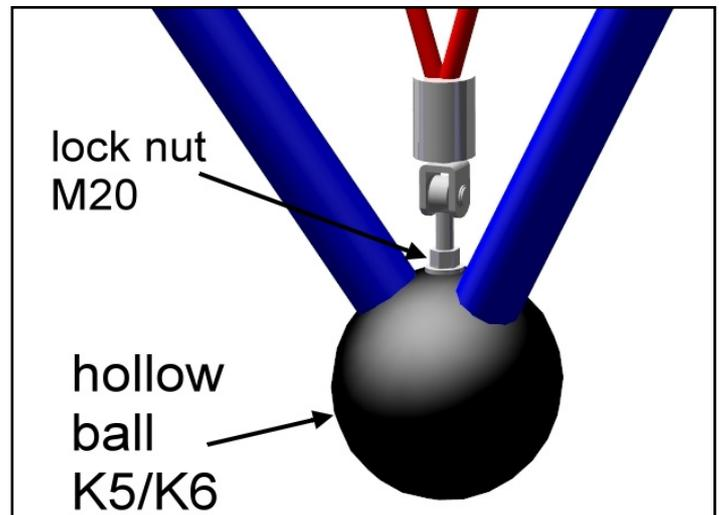
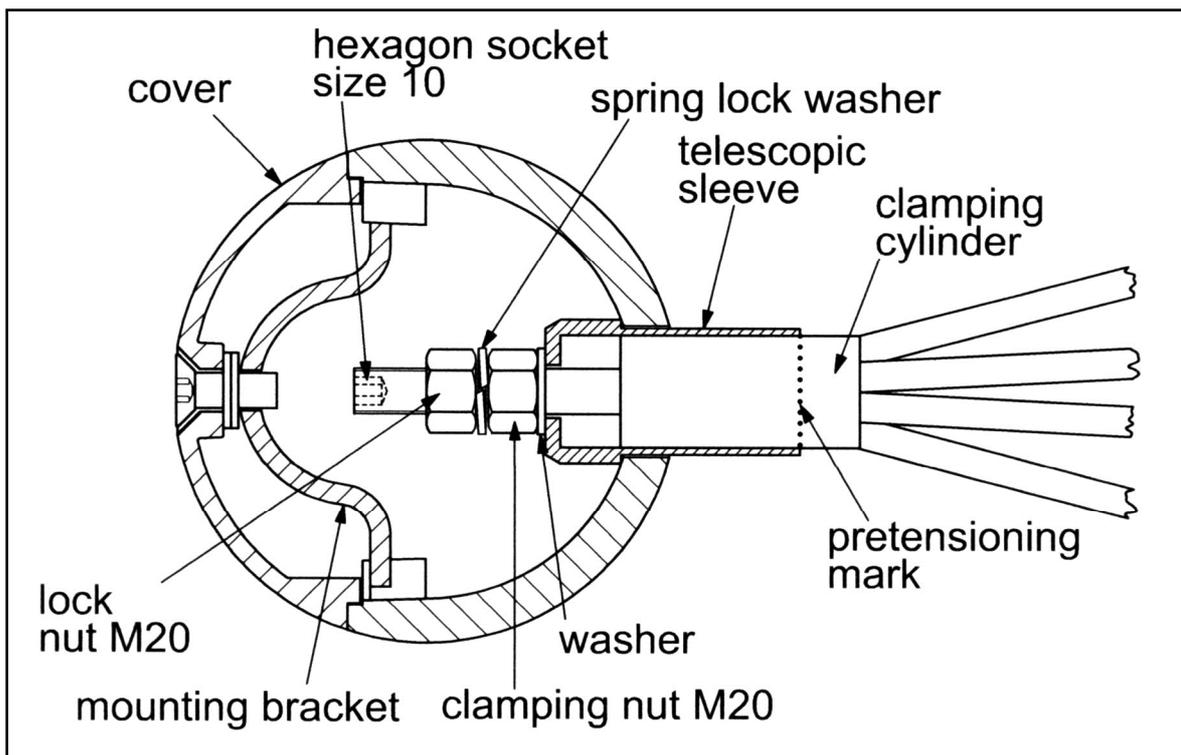

Figure 7
Figure 8
The four **corner points K2**, marked at the space net, should now be raised to the **hollow balls K2** using the attached assembly rope and fitted to the tensioning nut. Push the clamping cylinder with the bolt M20 into the telescopic sleeve (**figure 8**) and first of all, tighten it with the clamping nut N20 size 32 by only five turns to make for easier insertion into the spheres. The space netting should now be completely removed from the crate.
Preassembly of the space netting is continued on **joints K5** and **K6** (**figure 7**), then on **joint K3** and finally on **joints K4** (**K3** and **K4** are mounted like **K2**, **figure 8**). The straining screws should initially only be tightened about 5 threads by the tensioning nuts.
Tightening begins at **joints K5** and **K6** and is carried out with the tensioning nuts M20 size 30. At this point the straining screws should be tightened as far as possible, so that the lock nuts previously set in the works (**figure 7**) come into firm contact with the joints. Further tightening is carried out on **joints K2**, **K3** and **K4**. At this points tightening must be carried out with the special socket spanner size 32 which is supplied. It must be **tensioned up to the pretensioning mark**. The net finally has a good **uniform strong** tension.
Please note, that at all clamping points **the ropes are not distorted** when you tensioning the net. If necessary hold it firm with a practical tool. (**figure 8**).
After the tensioning the clamping nuts at all joints **K2**, **K3** and **K4** are to lock with the supplied locking nut M20 size 32 including the spring lock washer. **When you tightened the lock nut, you can hold up the M20 bolt with an Allen key size 10** (**figure 8**).
Now the lock nuts should be checked at the joint points **K5** and **K6** are firmly anchored (**figure 7**). After that, all joints **K1**, **K2**, **K3**, **K4**, **K5** and **K6** can be locked with the prepared ball covers via the retaining bracket in the cover (**figure 8**). Please fix all the covers that our logo is on the top. Thank you.
- The first re-tensioning of the equipment must be carried out after it has been used for between 1 and 2 weeks. Re-tensioning is done using the clamping nuts M20 which are situated in the hollow spheres (**K5** and **K6**). After removing the cover, using a size 10 Allen key, a socket spanner is used to increase the tension on the tensioning nut size 30. The lock nut size 30, which is on the outside of the hollow ball (**figure 7**), should first be loosened. After the re-tensioning the lock nuts are to be tightened. The further re-tensioning is carried out on the hollow spheres **K2**, **K3** and **K4**. At this points re-tensioning must be carried out with the special socket spanner size 32 which is supplied. The lock nut size 32 (**figure 8**) should first be loosened. It must be **tensioned beyond the pretensioning mark**. After the re-tensioning the clamping nuts at all joints **K2**, **K3** and **K4** are to lock with the supplied locking nut M20 size 32. **Please note the right position of the spring lock washer between the two nuts**. When you tightened the lock nut, you can hold up the M20 bolt with an Allen key size 10 (**figure 8**). Now the lock nuts should be checked at the joint points **K5** and **K6** are firmly anchored (**figure 7**). After that, joints **K2**, **K3**, **K4**, **K5** and **K6** can be locked with the prepared ball covers via the retaining bolt in the cover. Please fix all the covers that our logo is on the top. Thank you.
- Check that the lock nuts (**figure 7**) fit firmly on the hollow balls **K5** and **K6**.